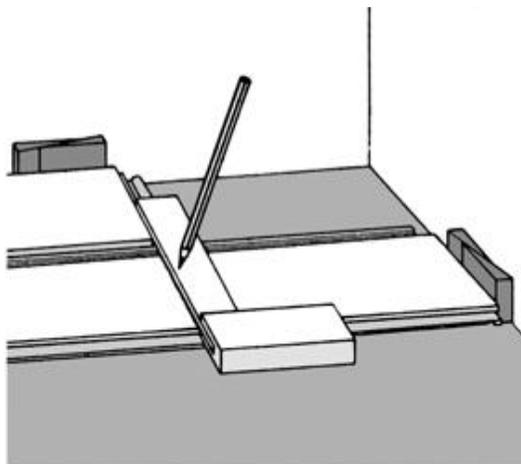
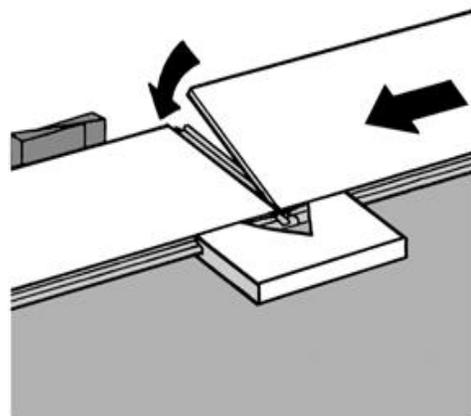

Fig.2
Fig.3
2) Measure the row before laying the first panel and cut the first panel according to the length required for the last panel, ensure that the last panel is a minimum of 8" (20cm) (Fig.2). Install the first row by laying the first panel in the left-hand corner of the room with the tongue facing the wall, leaving the expansion gap; 1/2" - 5/8" (12.5mm-16mm) as required between the panels and the wall. Ensure to include the tongue in the measurement when allowing for the expansion gap or if preferred, you can cut off the tongue on the first row. Lock the ends of the panels together with the help of a fitting block (a panel off cut with a lengthwise tongue profile) until the first row is finished (Fig.3).